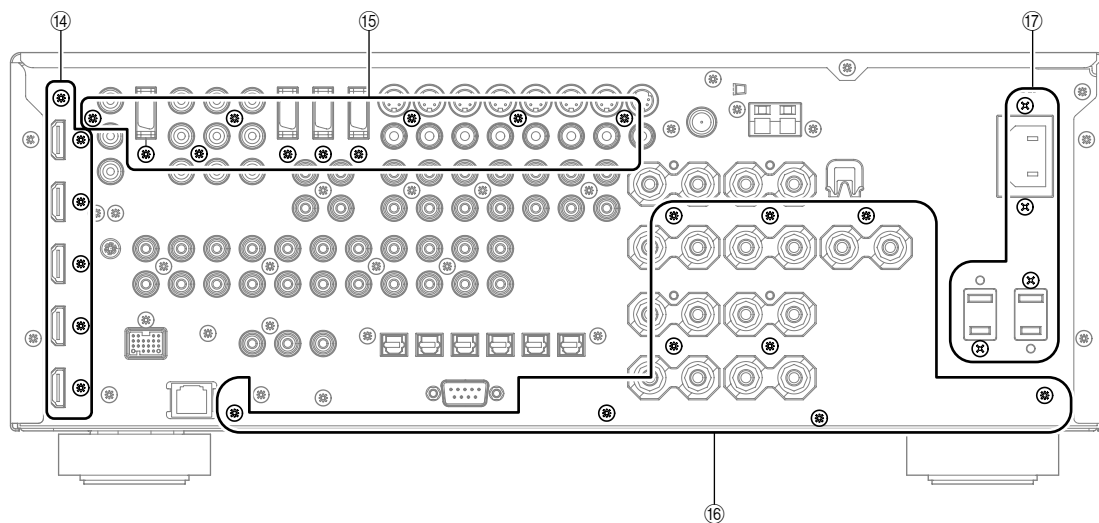

Fig. 6
- e. Remove 6 screws (⑭). (Fig. 6)
- d. ⑬のネジ6本を外します。(Fig. 6)
- a. Remove 6 screws (⑮). (Fig. 6)
- a. ⑮のネジ10本を外します。(Fig. 6)
- Remove 11 (U, C, T, A, B, G, E models) / 13 (R, L models) screws (16) and 4 (U, C, R, T, A, B, G, E, L models) / 2 (K model) screws (17). (Fig. 6)
- 16のネジ9本、17のネジ4本を外します。(Fig. 6)